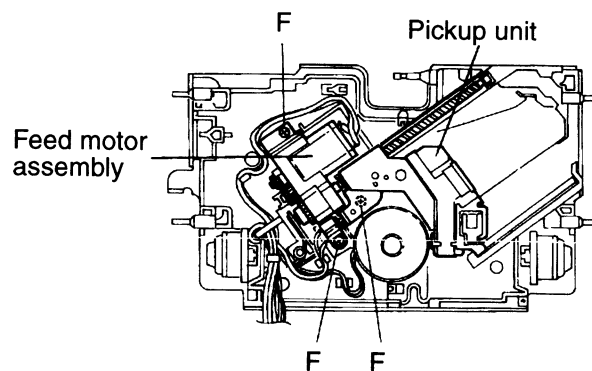

Fig. 18
6. Remove the three screws F retaining the feed motor assembly and take out this motor assembly (See Fig. 18).